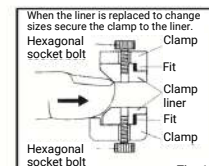

Fig. 11
- 3** When the liner is replaced to change sizes, be sure to fit the new liner properly in the clamp before securing it with the socket bolt. (Fig. 11)